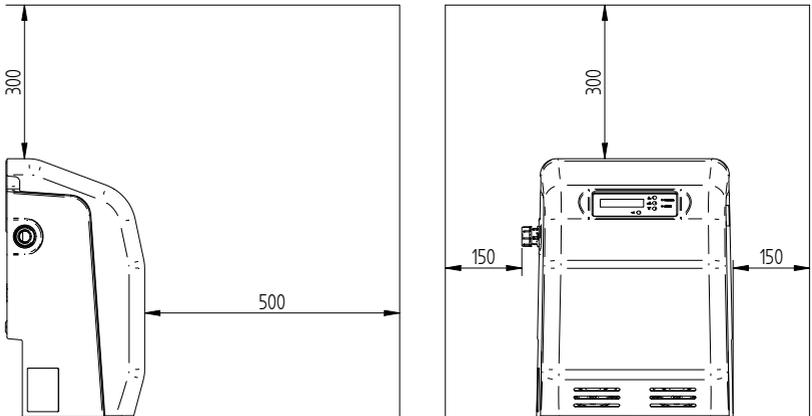

Fig. 2
- 2.12 **Access and minimum clearance requirements:** For emergencies and maintenance the SPU Midi must be easily accessible and have the minimum clearance around it as laid out in Fig. 2. Additional access to the front of the unit will be required to operate the keypad and view the display.